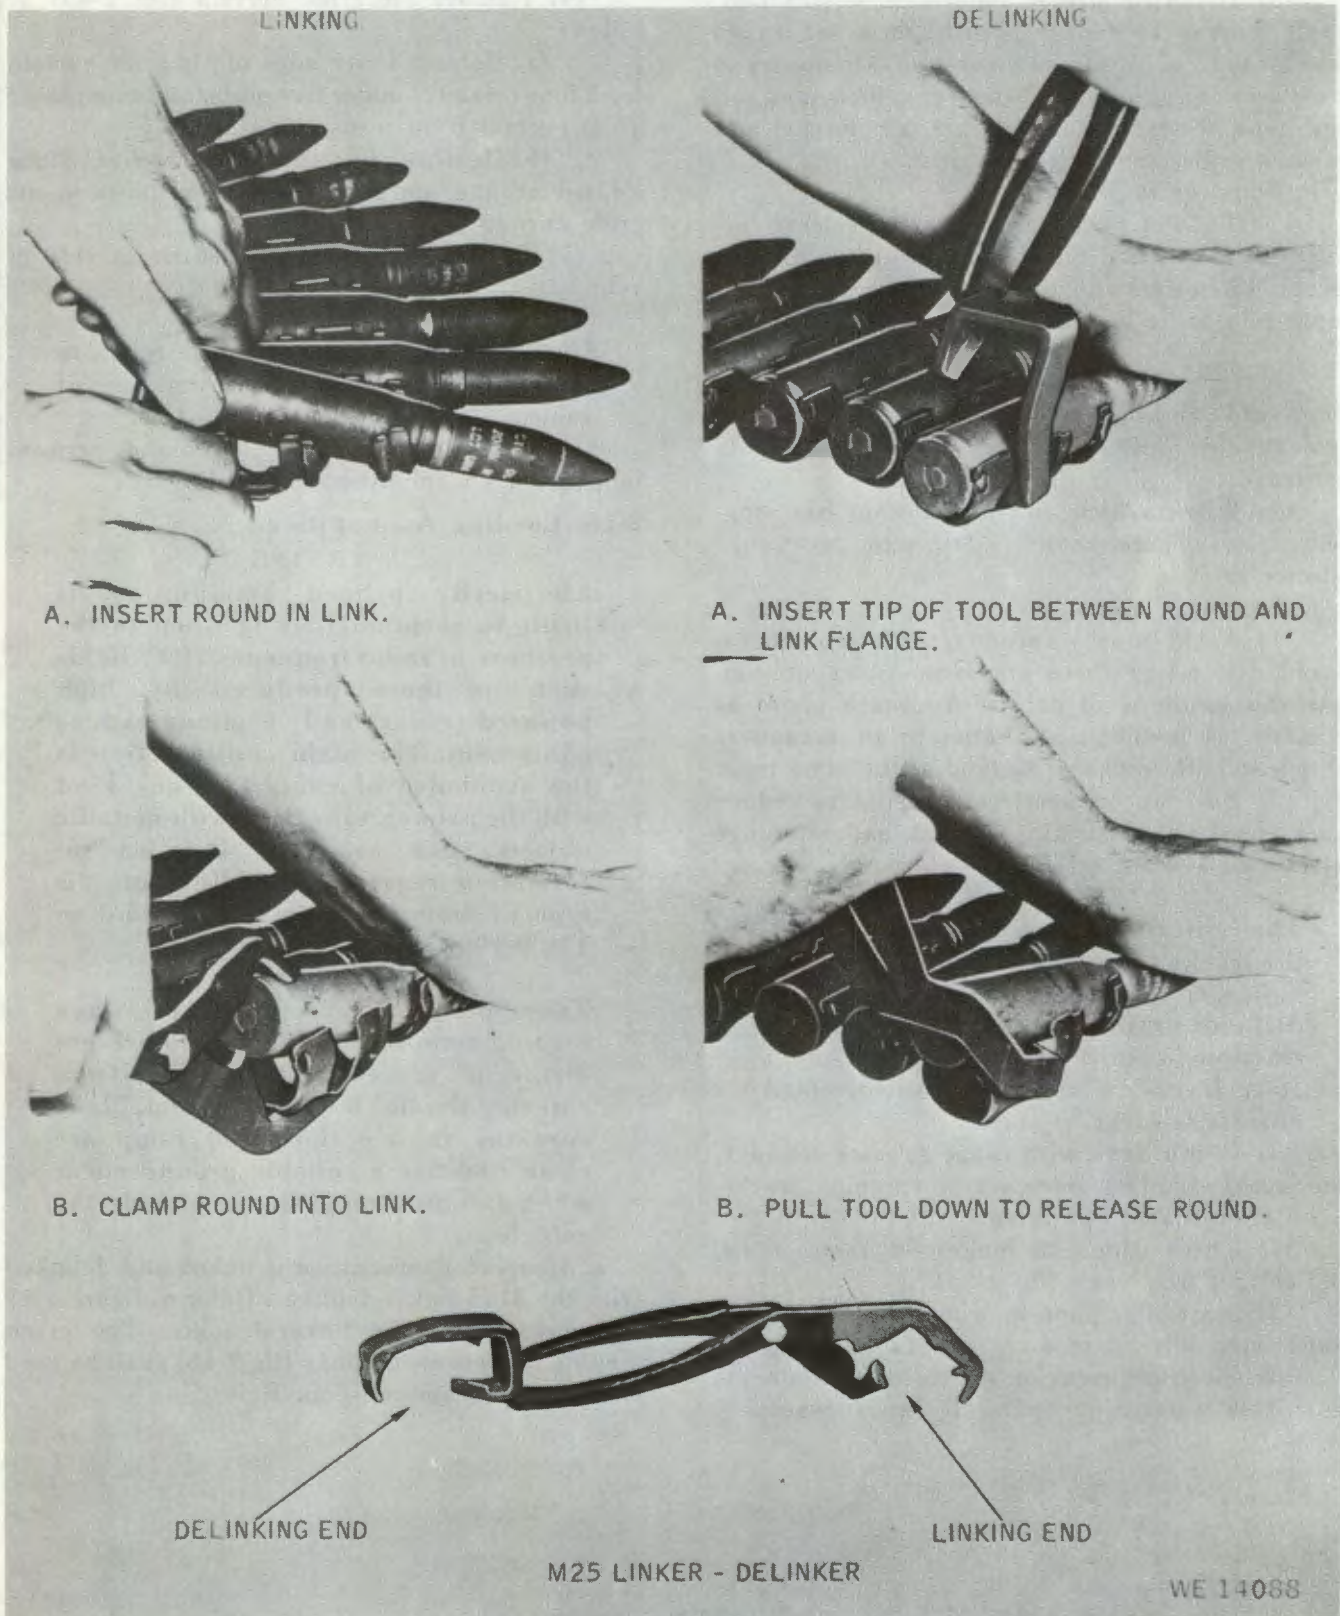
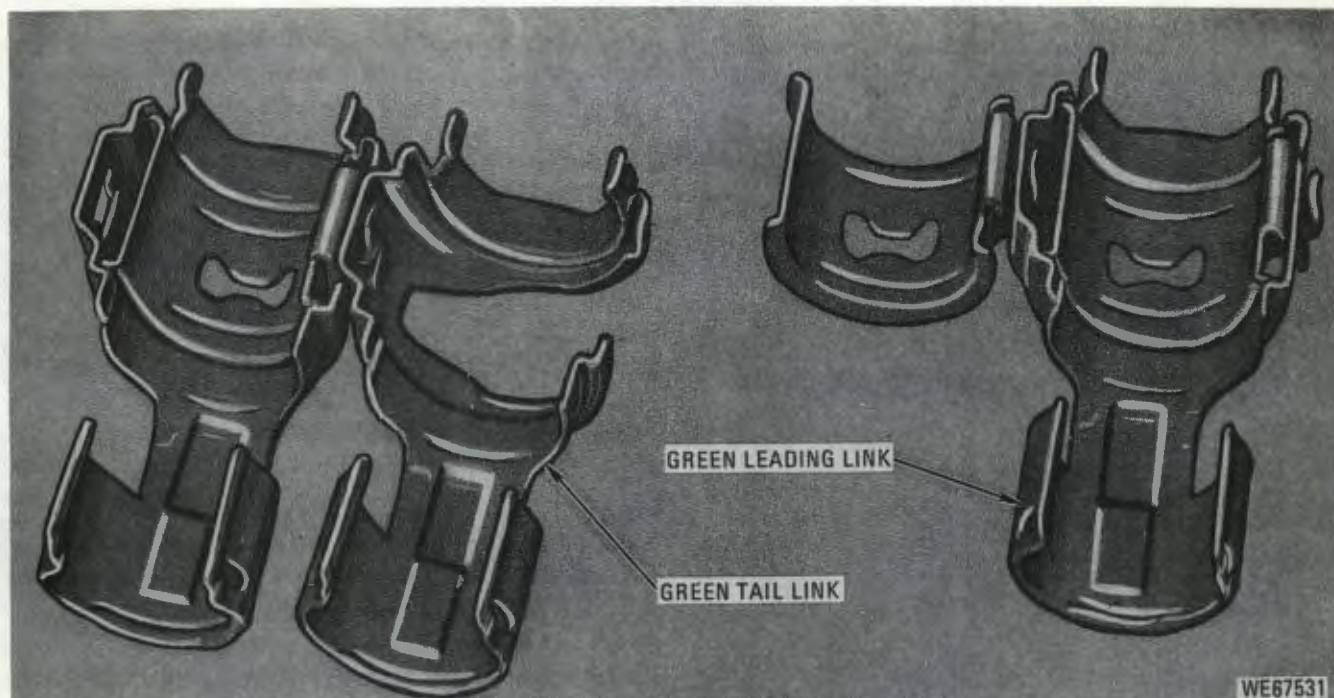

Figure 2-47. Operation of M25 linker-delinker.
Figure 2-48. Green leading and tail links.
a. *General.* Ammunition is linked and delinked with the M25 linker-delinker. Refer to figure 2-47 for operation of the linker-delinker. The green leading and green tail links (fig 2-48) shall be used when loading ammunition. Refer
(19) Connect tail link (fig. 2-48) to last round on belt if complete belt is to be loaded into drum.
(20) Place suitable container under exit unit to catch stripped links.
(21) When loading long belts of ammunition proceed to step (22). Load short belts of ammunition as follows: